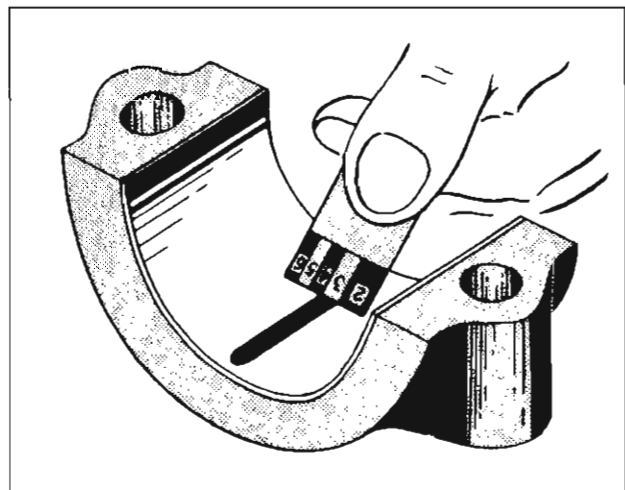

Fig. 3-31 Checking Bearing Clearance
8. Remove bearing cap and determine bearing clearances by comparing the width of the flattened "Plastigauge" at its widest point with the graduation on the "Plastigauge" container. The number within the graduation on the envelope indicates the clearance in thousandths of an inch. (Fig. 3-31) If this clearance is greater than .0035", replace the bearing and recheck clearance with "Plastigauge".
5. Remove bearing cap and determine bearing clearance by comparing the width of the flattened "Plastigauge" at its widest point with the graduation on the "Plastigauge" container. The number within the graduation on the envelope indicates the clearance in thousandths of an inch. (Fig. 3-31) If this clearance is greater than .0035" for No. 1, 2, 3 or 4 bearings and .0045" for No. 5 bearing, REPLACE BOTH BEARING SHELLS AS A SET. Recheck clearance after replacing shells. (Refer to MAIN BEARINGS - REPLACE).